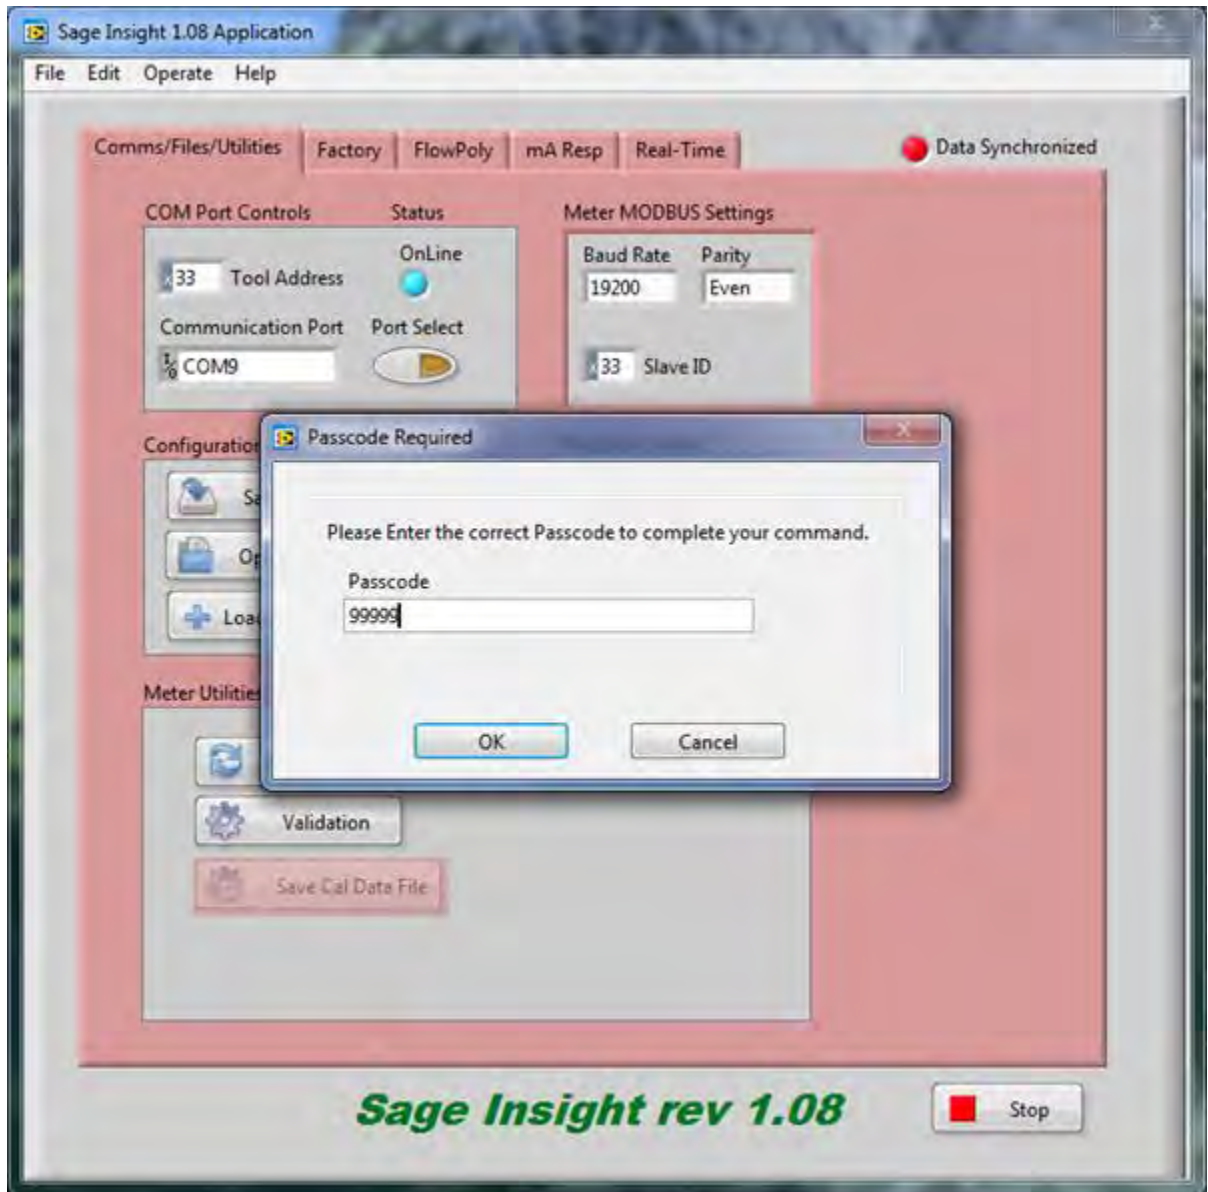

Figure 8
4. To enter the required data in the pink highlighted sections, you need to access the Process Change level. The passcode is 99999. Click on OK after you have typed in the passcode. See Figure 8.